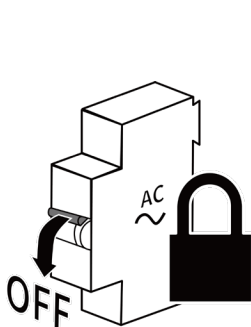

Fig. 18. Switch off the AC circuit breaker.
1. Switch off the AC circuit breaker and lock it to avoid it from being inadvertently switched on(see Fig. 18).